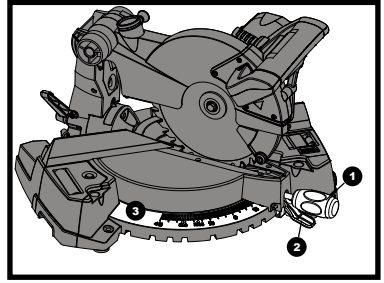

Fig 26
- 1) When a mitre cut is required, unlock the mitre table by turning the mitre handle (1) counterclockwise.
- 2) While holding the mitre handle, lift up on the positive stop locking lever (2).
- 4) When the table is in the desired position, as shown on the mitre scale (3), release the positive stop locking lever and tighten the mitre handle. The table is now locked at the desired angle. Positive stops are provided at 0°, 15°, 22.5°, 31.6° and 45°. (See fig. 26)